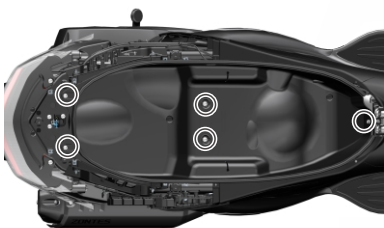

Figure2
3. Use a T25 Torx wrench to remove the 6 bolts marked in the red circle (see Figure 2). Slightly lift the rear part of the storage box and disconnect the ambient light connector in the middle of the left side of the storage box.